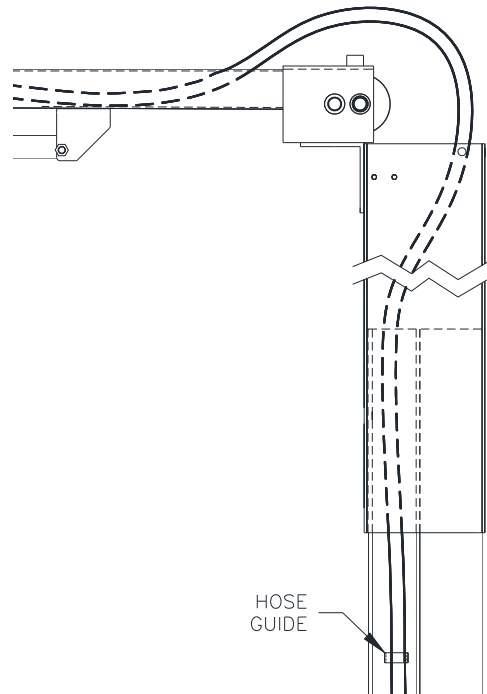

Fig 15 – Hose Routing
- 31) Route hoses through hose guides in Column. Run Idler hose up through Column Extension, over the top of the Overhead, and down through the opposite Column Extension as shown in **Fig 15** below.